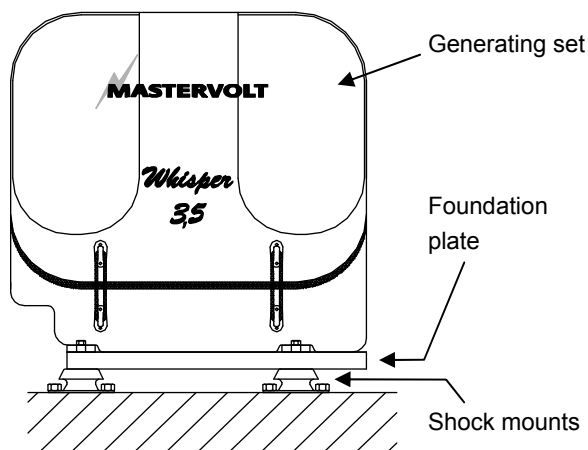

Figure 23
- 1 Install a steel foundation plate between ship's hull and generating set, with 4 shock mounts (ref. to figure. 23).